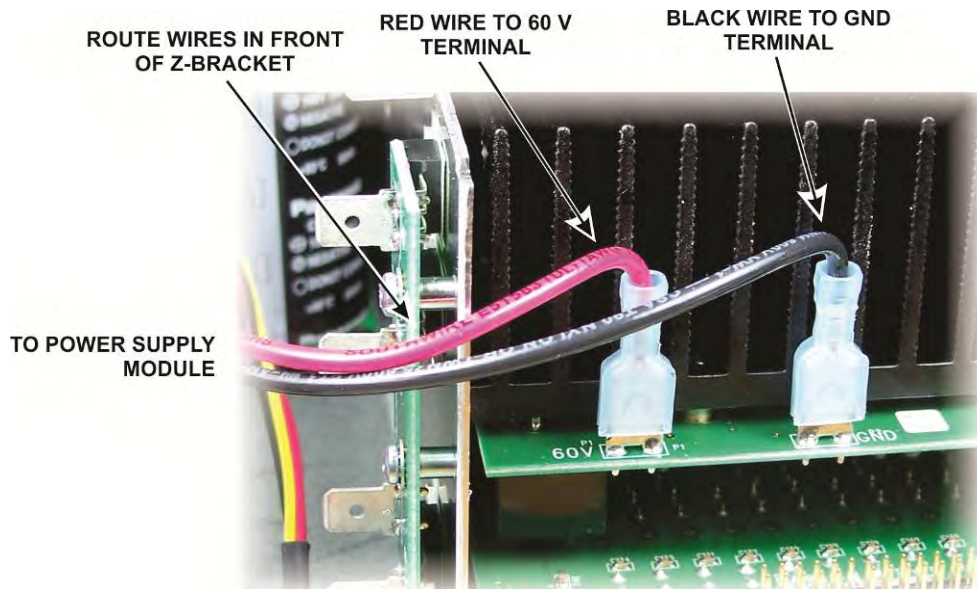

Figure 43. Connecting the 60V and GND Wires to the PA/LPF Module.
□ There are five wires remaining connected to the power supply module: two red, two black, and one white. One red and one black wire are longer than the others. Route the longer red and black wires around the end of the Z-bracket and connect them to the 60V and GND terminals on the PA/LPF Module as shown in Figure 43.